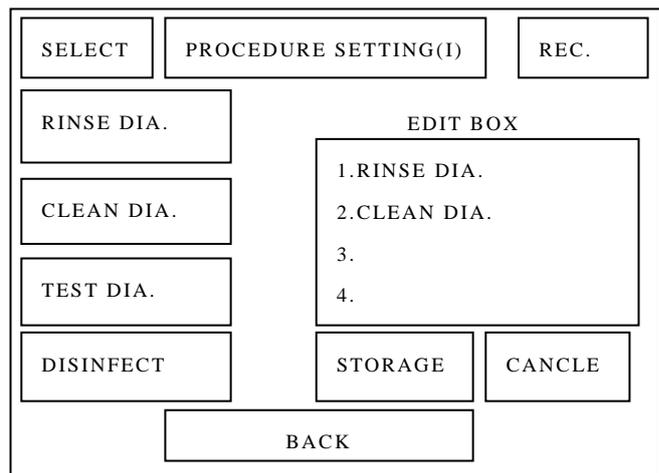

Figure 9-8
(7) “PRO.SETUP” means that the user can set his own automatic procedure according to actual situation. Press “SELECT”, you can choose to do procedure setting (I), procedure setting (II) or procedure setting (I,II). When you select one, you can set these items. Press “STORAGE” key to restore factory setting. (Figure 9-8)